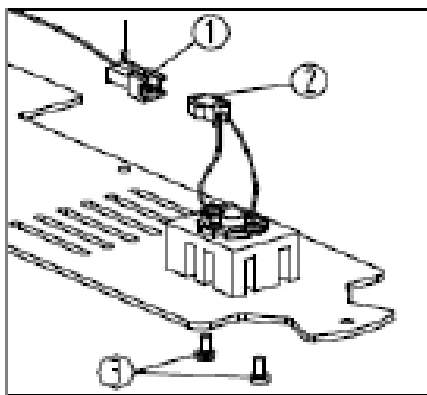

Fig. 5
Unplug microscope, remove the lock screw on the base plate and remove base plate. Unplug connector to remove base plate from the microscope (1) and (2) Remove the two screws (3) to remove LED module. Replace with a new LED module. Reinstall the LED module by replacing the two screws on the base plate, connect plug connector (2) into connector socket (1), reinstall baseplate onto microscope (See Fig.5).